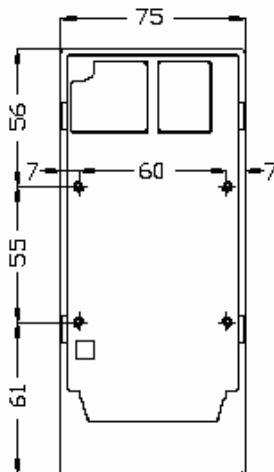

Figure 1 – Mounting holes positions
1. Mark out the positions of the mounting holes on the backing plate where the frequency inverter will be located (see in figure 1 drawing and hole size).